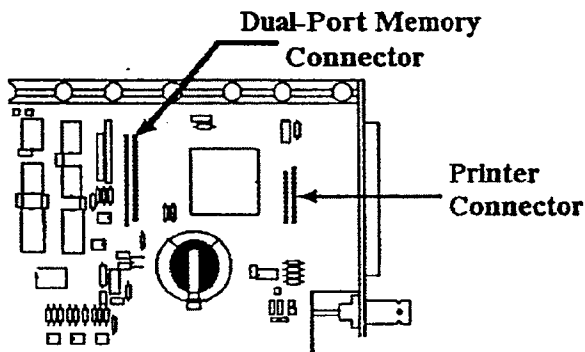

Fig. 4. Location of Option Connectors.
6. Carefully plug the Printer Option in to the row of pins close to the rear panel (see Figure 4). The connector is keyed for proper installation.
To install the Dual-Port Memory Option, do the following (refer to Fig. 4):